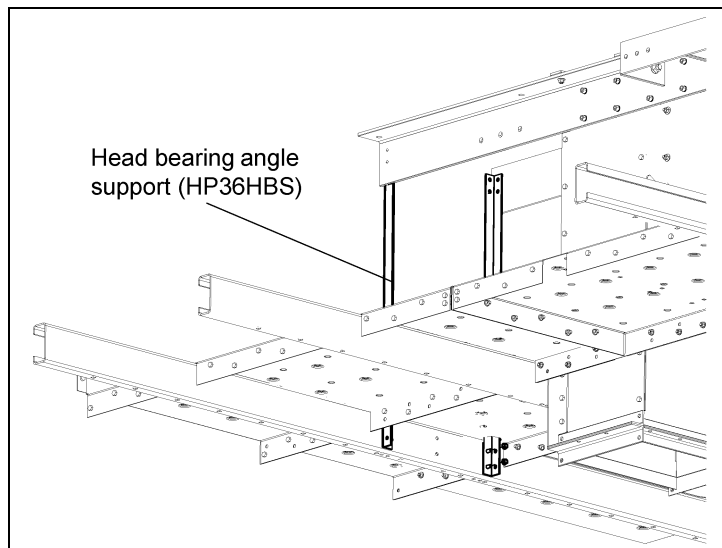

Figure 10B 36" Bearing Support Angle
1. Place two (2) head bearing angle supports (HP36HBS) as shown in *Figure 10B*.